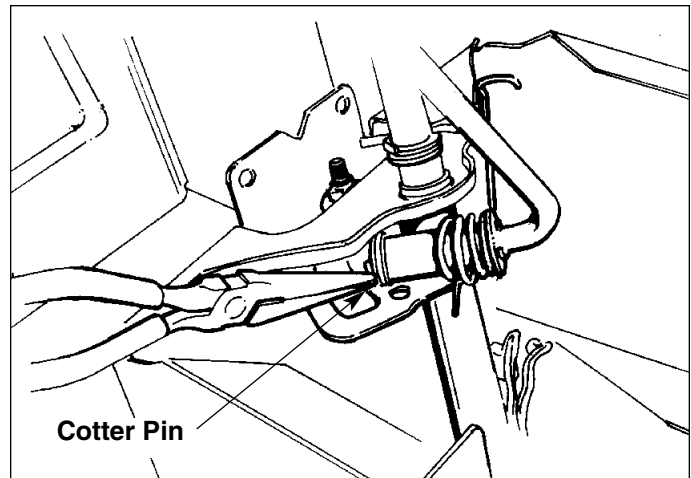

Figure B-11. Remove End Cotter Pin
2. Using a long-nose pliers, remove the cotter pin from the end of the shift lever. (Figure B-11)